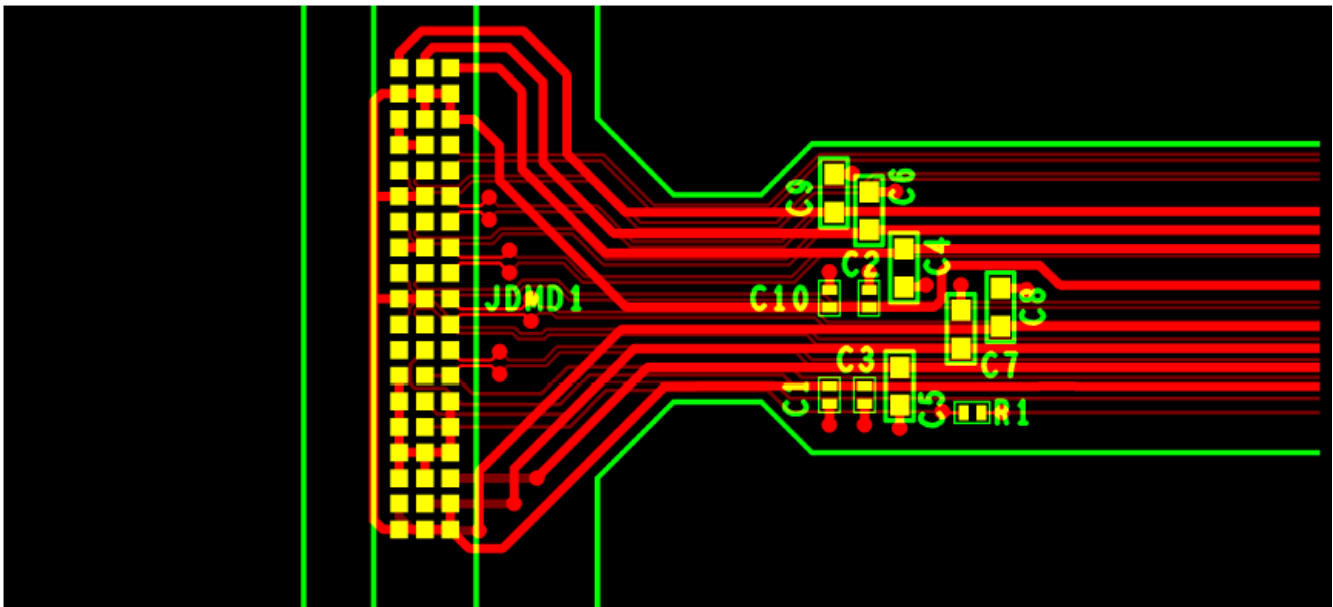

Figure 10-1. Power Supply Connections
- Minimize vias, layer changes, and turns for the HS bus signals. Refer Figure 10-1.
- Minimum of two 100-nF decoupling capacitor close to VBIAS. Capacitor C6 and C7 in Figure 10-1.
- Minimum of two 100-nF decoupling capacitor close to VRST. Capacitor C9 and C8 in Figure 10-1.
- Minimum of two 220-nF decoupling capacitor close to VOFS. Capacitor C5 and C4 in Figure 10-1.
- Minimum of four 100-nF decoupling capacitor close to Vcci and Vcc. Capacitor C1, C2, C3 and C10 in Figure 10-1.